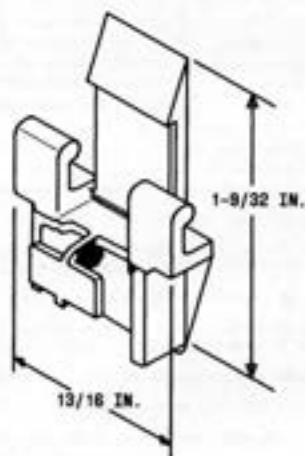

Fig. 1—B Siding Clip
2.16 Be sure protrusion of fasteners will not cause damage or injury. Fasteners for siding can be of the following variety: tapping screw, B or C plastic anchor, toggle bolts, B wall screw anchors, or B siding clip (Fig. 1).